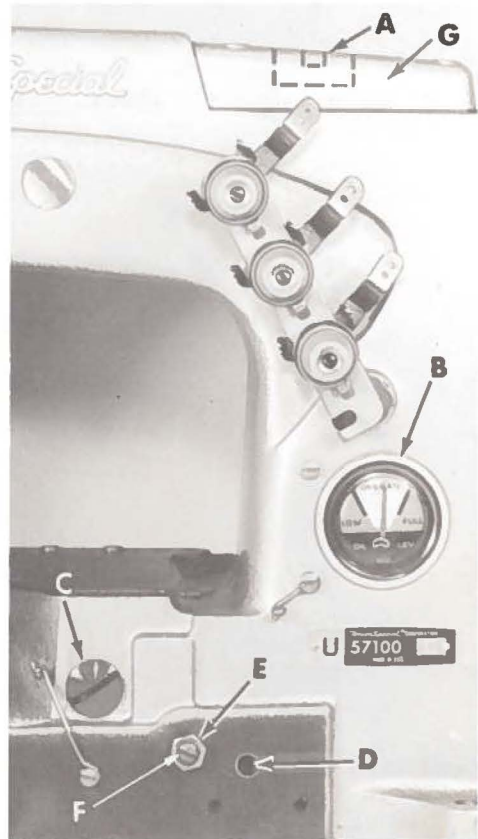
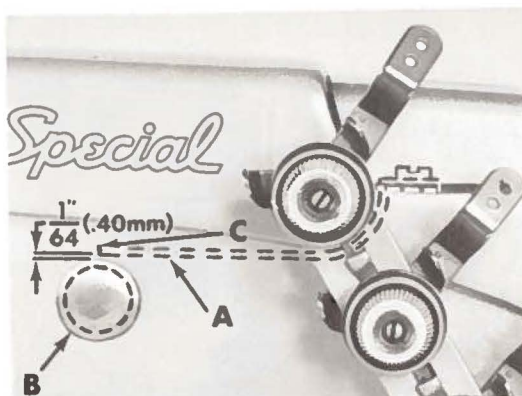

Fig. 1
Fig. 2
**CAUTION!** Oil has been drained from the main reservoir before shipment, so the reservoir must be filled to the proper level at plug screw (A, Fig. 1) as indicated on oil gauge (B), before beginning to operate. The capacity of the reservoir is 12 ounces (340.2 gr.). Run machine slowly for several minutes to distribute the oil to the various parts. Full speed operation can then be expected without damage.
Use a straight mineral oil of a Saybolt viscosity of 90 to 125 seconds at 100° Fahrenheit in the main reservoir. This is equivalent to UNION SPECIAL specification No. 175. Fill main reservoir at plug screw in upper crank chamber cover (A, Fig. 1) and check oil level at gauge (B). Oil is at maximum safe operating level when needle is to the black line, located to the right of "OPERATE" zone, marked "FULL". Oil should be added when needle is to the black line, located to the left of "OPERATE" zone, marked "LOW". The recommended oil is available in 16 fluid ounce (453.6 gr.) cans No. 28604 R.
For machines in operation check the oil for dirt and lint deposits at reasonable intervals. If dirty, change the oil. An oil change is recommended every 2000 operating hours, or once a year. Oil may be drained from main reservoir by removing plug screw (C, Fig. 1) located below the cloth plate at front of the machine, or by removing the lower crank chamber cover, located at the back of machine.
A daily check before the morning start should be made, to see that the oil level is at a safe operating level, as outlined in the first paragraph. Oil which has gone through the machine is filtered and pumped back into the main reservoir, making too frequent oilings unnecessary. Excessive oil in the main reservoir may be drained by removing plug screw (C, Fig. 1) located below the cloth plate at the front of the machine. After draining oil, wipe the hole and plug screw dry, paint hole and screw with a little gasket cement, and re-assembly screw.
2. Remove the oil reservoir plug screw (C, Fig. 1) and tip machine forward to drain oil from the reservoir.
5. Fill main reservoir to a level even with the bottom contour of the knee press shaft bushing (D, Fig. 1).
6. Loosen lock nut (E) on the calibrating screw (F), and turn the screw to the left or right until the gauge needle rests on the black line, located to the left of "OPERATE" zone, marked "LOW".
7. Tighten lock nut (E) and replace plug screw (C) and lower crank chamber cover.
Remove the head cover and upper crank chamber cover (G, Fig. 1). Check position of needle lever bearing oiler (A, Fig. 2) located inside the arm casting, below the upper crank chamber cover, which lubricates the needle lever stud (B). Make sure it is tilted downwardly and that its delivery end (C) contacts the inside wall of the bed casting at the back, just above the notch of the needle lever shaft bushing. (Do not allow the oiler to rest on the needle lever). Allow  $\frac{1}{64}$  inch (.40 mm) clearance as in Figure 2.